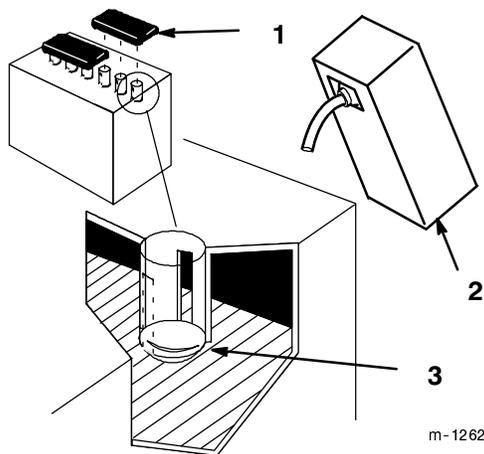

Figure 6
7. Remove filler caps from the battery. Slowly pour electrolyte into each cell until the electrolyte level is up to the lower part of the tube (Fig. 6).
10. Slowly pour electrolyte into each cell until the level is once again up to the "UPPER" line on the battery case (Fig. 6) and install covers.